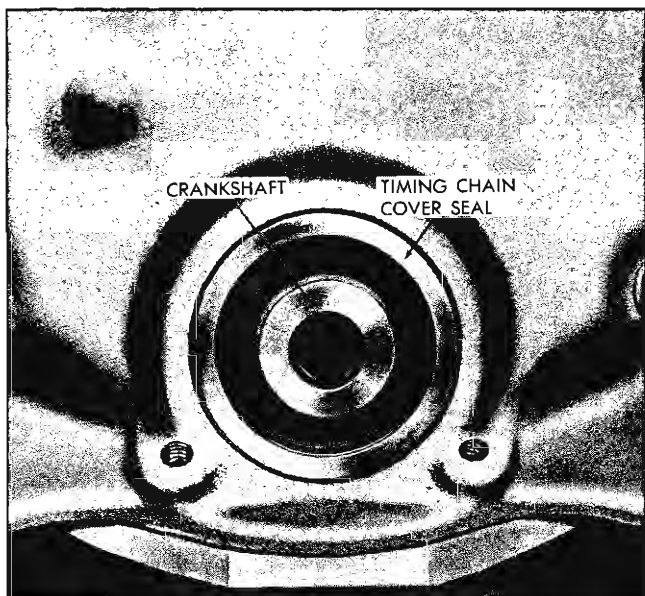

Fig. 6-45 Timing Chain Cover Seal
4. Remove timing chain cover seal by prying out of bore with a pry bar (Fig. 6-45).